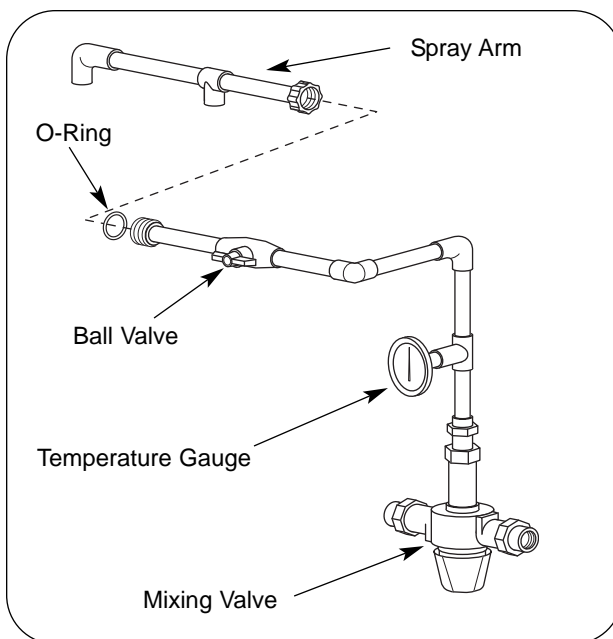

Figure 8. Water Manifold Assembly
5. With the spray heads on the spray arm pointing downward connect the spray arm to the water manifold, making sure O-Ring is seated into groove on manifold end. (See Figure 8.) *Hand tighten only.* Now core unit is set onto the shelf. Plumber should then work backward from the spray arm union to locate final plumbing path and clamp (secure) the mixing valve to the wall.
1. Connect the water manifold assembly to mixing valve and secure to wall using a 3/4" (19 mm) pipe support clamp or conduit clamp. (Clamp is not provided.) (See Figure 8.)